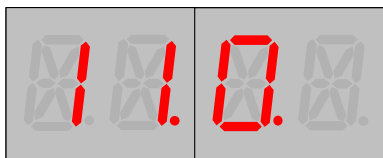

Figure 8b: Bit Number displayed.
2. Press SELECT. The Bit Number is displayed. See **Figure 8b**.
6. BACK will stop display of Bit values and return to navigating Bit Numbers. See **Figures 8b** and **8c**.